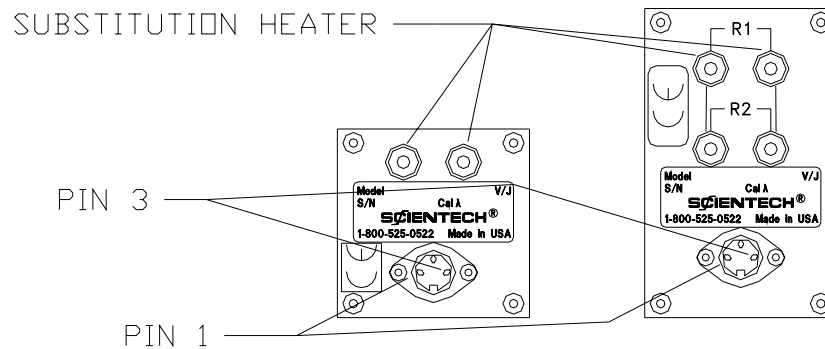

Figure 5
- A. Connect a DVM to the white jacks of the calorimeter. Refer to Figure 5.
For this procedure you will need to make an adapter cable to go from the calorimeter's DIN connector to the DVM. The voltage output is on pin 1 of the DIN connector and should be connected to the positive side of the DVM. Ground is on pin 3 and should be connected to the negative side. Pin 2 is not used. Refer to Figure 5.
When large aperture calorimeters are used without an indicator their interface module is not used. The output of the calorimeter is connected directly to the DVM or chart recorder. Large aperture calorimeters do not require any power. The voltage output is on pin 1 of the DIN connector and should be connected to the positive side of the DVM or chart recorder. Ground is on pin 3 and should be connected to the negative side. Pin 2 is not used. Refer to Figure 5.